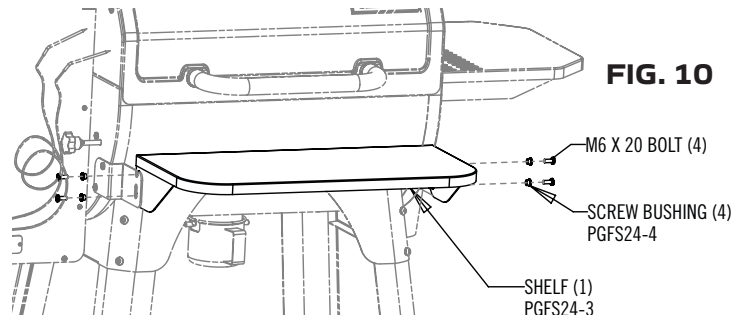

FIG. 10
4. Install the front shelf to the brackets as shown in Fig 10.